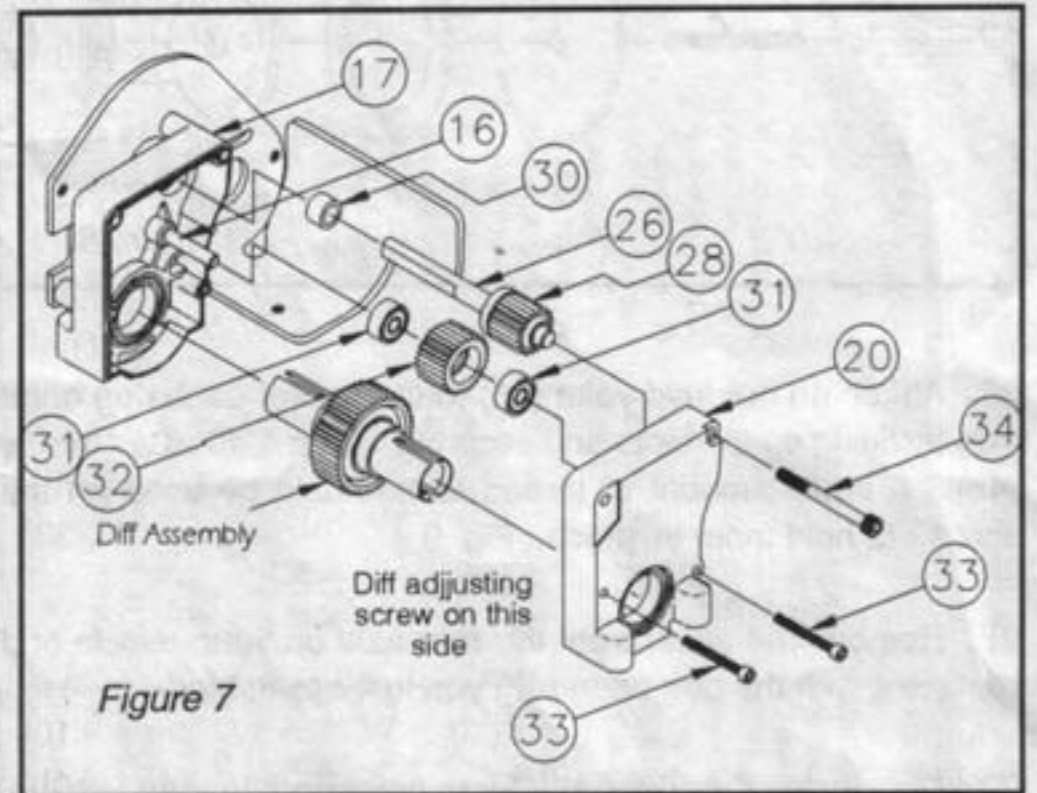

Figure 7
20. Place the top shaft spacer (30) over the top shaft (26) from the side with the set screw (25) and slide it up against the gear (28). Insert the top gear assembly into the right gear box half (17) threaded side first. Insert the differential, diff nut side first, into the bottom of the right gear box half (17). Fig. 7
21. Insert a 1/8" x 3/8" bearing (31) into each side of the idler gear (32) and place the gear onto the idler shaft (16). Be sure to align the gears, don't try to force the idler gear into place. Fig. 7
22. Attach the left gear box half (20) to the right gear box half (17). Secure the gear box halves (17), (20) with two 2-56 x 5/8" screws (33) in the bottom two holes of the left gear box half (20) and one 4-40 x 1 1/8" screw (34) into the top rear hole. The top forward hole is left open for attachment to the rear bulkhead. Fig. 7